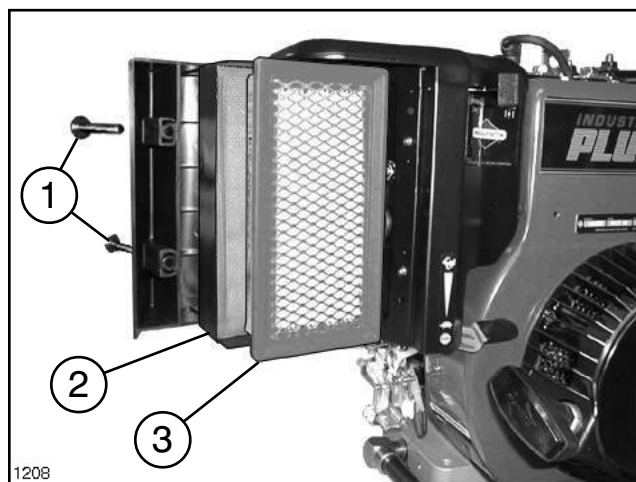

FIG. 3
1. Loosen Cover Screws and remove Cover, Pre-Cleaner and Cartridge. See FIG. 3.